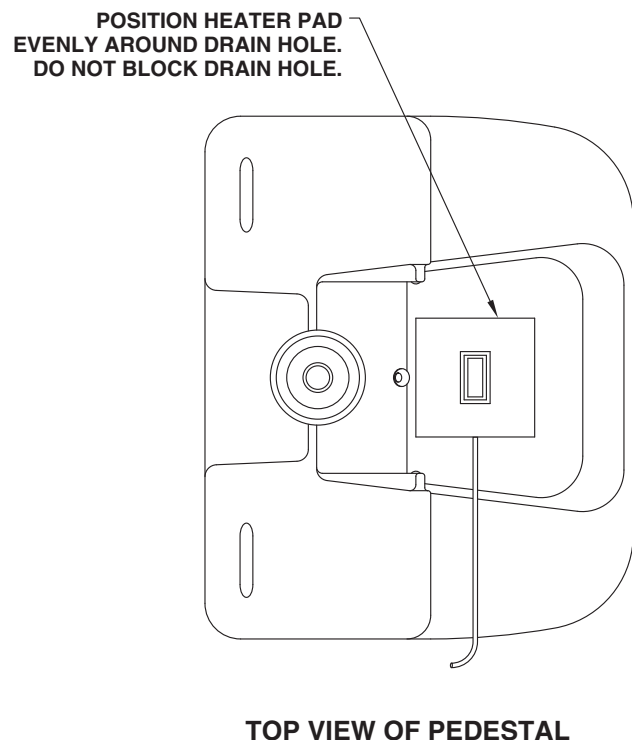

Figure 5
1. Remove the backing from the heater pad and place it onto the pedestal as shown in Figure 5.